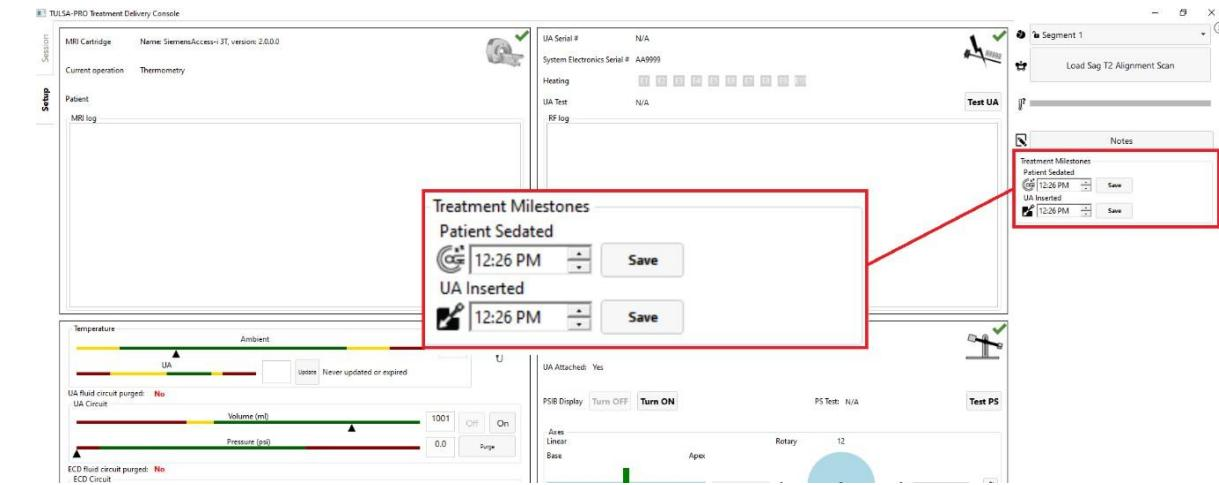

Figure 31: Entering Treatment Milestones in the TDC Setup Workspace
1. In the TDC Setup Workspace, enter the sedation and UA insertion times under **Treatment Milestones** (Figure 31).